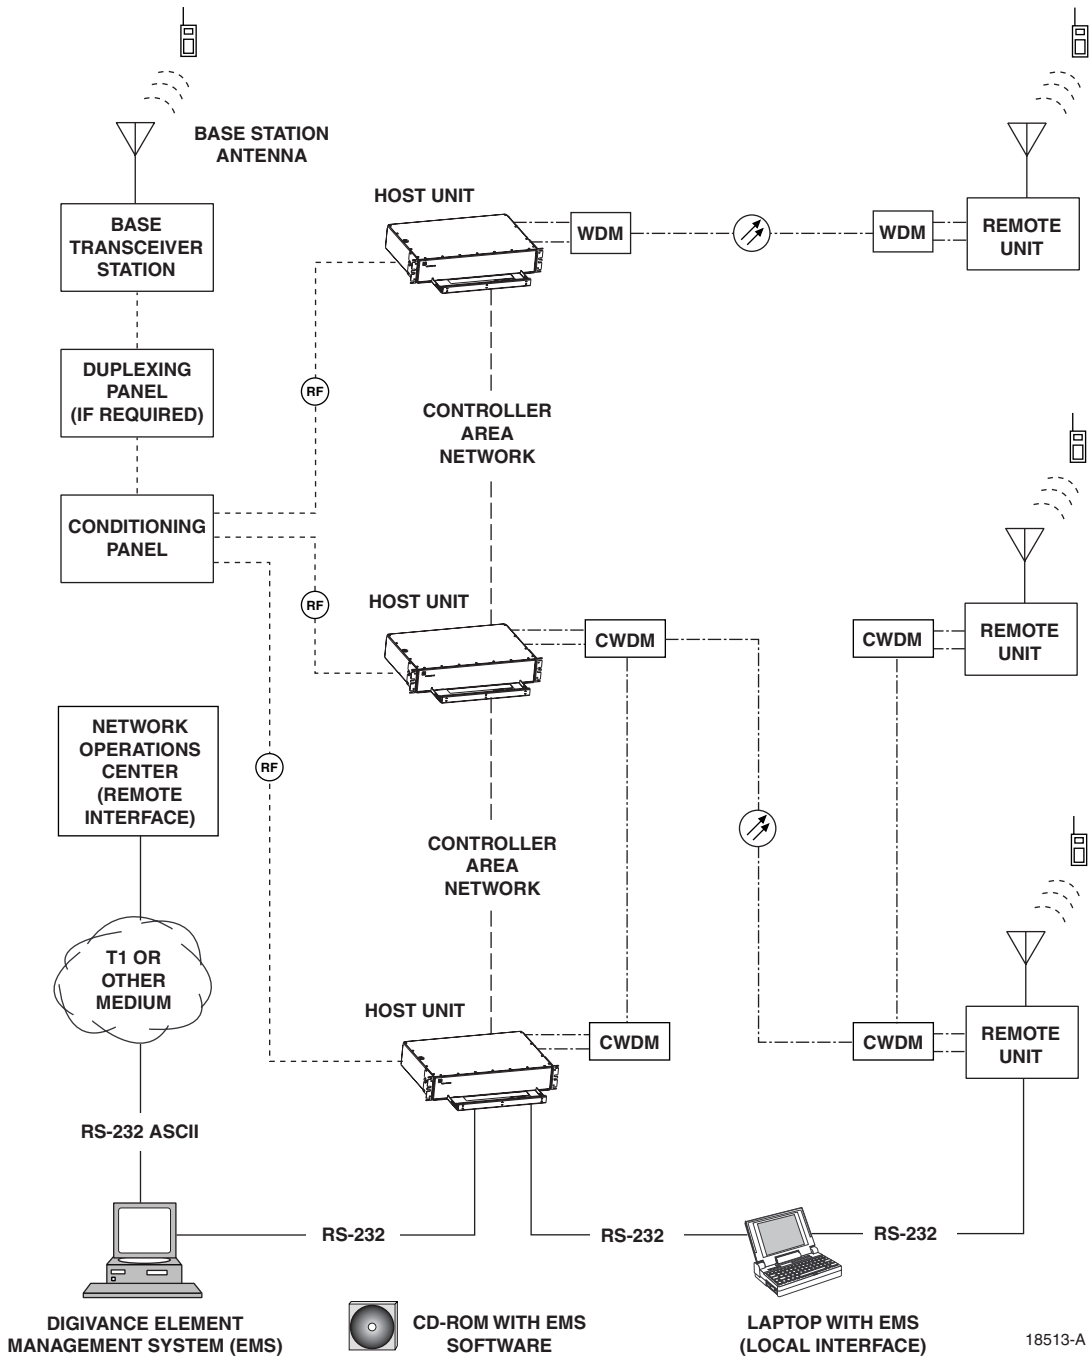

Figure 1-1. 20 Watt System Overview Diagram
The basic components of a Digivance 20 Watt System and their functions are shown in Figure 1-1. A 20 Watt system consists of the Host Unit (HU) and the Remote Unit (RU). Both an indoor and an outdoor remote unit are available. Control and monitoring functions are provided by the Digivance Element Management System (EMS), a PC-based software program. In addition, various accessory items are available separately including a passive Wavelength Division Multiplexer (WDM) system, an active Coarse Wavelength Division Multiplexer (CWDM) system, conditioning and duplexing panels (for interfacing the HU with the BTS),